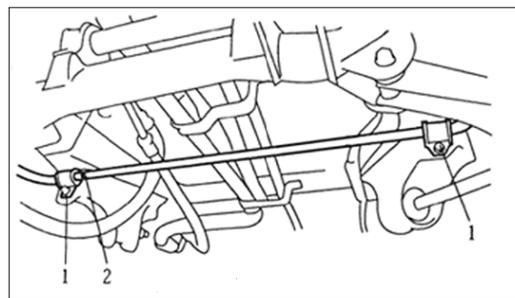

FIG.14-6
- (3) Remove flange bolt and bracket. (FIG.14-6)
The mounting position of stabilizer bar bush can refer to FIG.14-6; align the stabilizer bar identification mark with the left end of the bush.